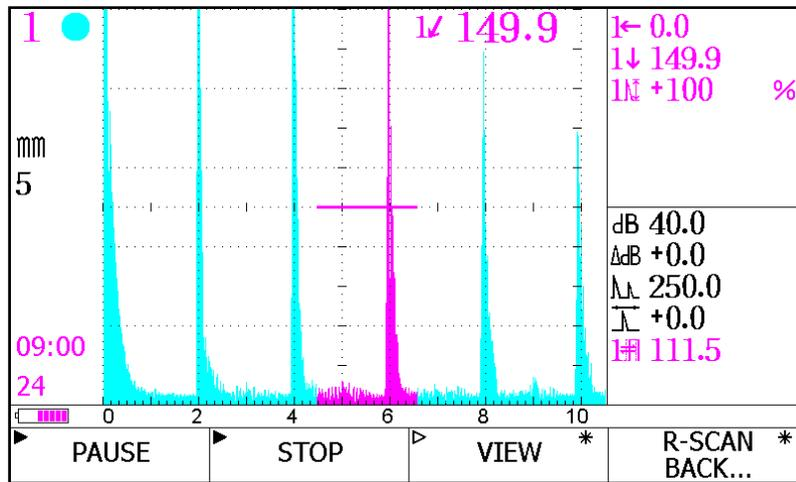

Figure 38. Recording Interface
To BEGIN recording: Press (RECORD). There is a visible five second countdown to the actual start recording mode. Note: Once (RECORD) is activated, the menu name changes to (PAUSE), the "Available Recording Time" (1) gradually decreases and the "Number of Recorded Frames" (2) increases (Figure 38).